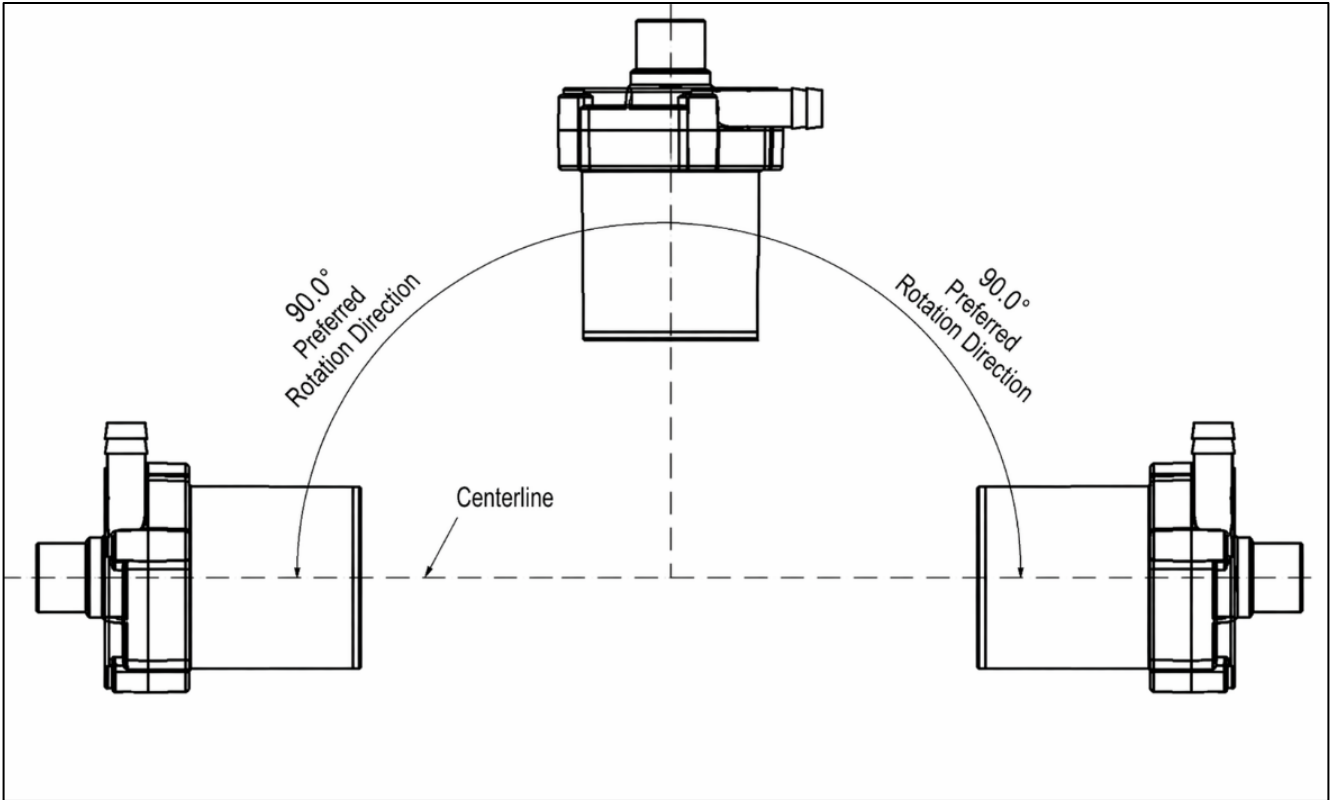

Figure 2
2) The water pump installation should avoid having the inlet facing downward (inverted condition). The installation angle inside the chiller shall follow the requirements shown in Figure 2.
- ① The fixed position of the water pump must take vibration and noise requirements into account.
- ② The wire harness must be secured to prevent relative movement between the harness and the pump connector.
- ③ No other parts are allowed to be mounted on the pump or its bracket.
- ④ The installation angle of the water pump shall follow the air-venting-friendly angle recommended in Figure 2 to avoid performance degradation.